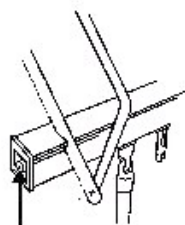

Figure 5
4. Take the small off-cut piece of headrail, remove the grub screw, adjustable stop ring, and end cap with an allen key - see figure 5 above.
7. Secure the endcap with the adjustable stop ring and grub screw - see figure 5 above.